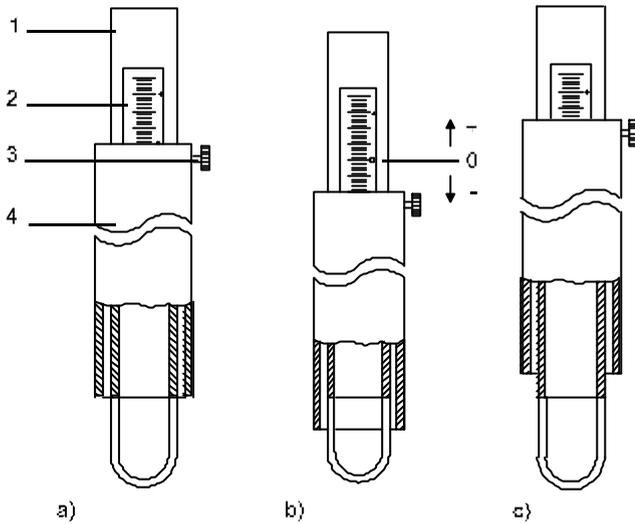

Fig. 5.6.-1
- "0" - position (see fig. 5.6.-1a)
- Loosen the knurled screw (3) (see fig. 5.6.-1).